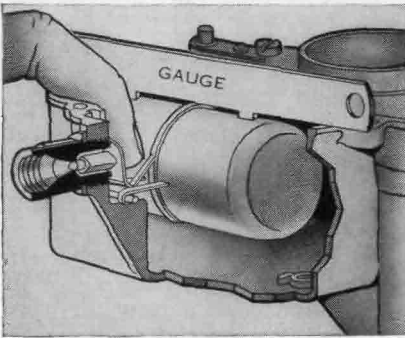

FIG. 10-13. Checking float height. (Plymouth Division of Chrysler Corporation)
2. *Float height.* Remove air cleaner and air horn from carburetor so that float is exposed (Fig. 10-13). Use special gauge as shown, and raise the float with finger pressed against the vertical lip until the needle valve closes. If a gauge is not available, lay straightedge on float-bowl flange above the float in place of the gauge. Then measure down to float, when float is held in raised position as explained above. Distance should be $\frac{5}{64}$ inch (plus or minus $\frac{1}{64}$ inch). Adjust by removing float and bending the vertical lip only. Bend toward float to raise float, away to lower float.